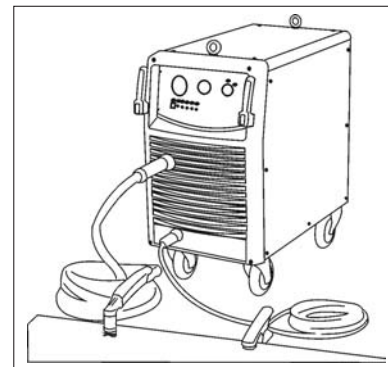

Fig. 6
Securely connect the earth cable connector to the generator as shown in figure 6.
3. Position the earthing clamp onto the piece to be cut, ensuring that it makes a good electric connection (Fig. 6).